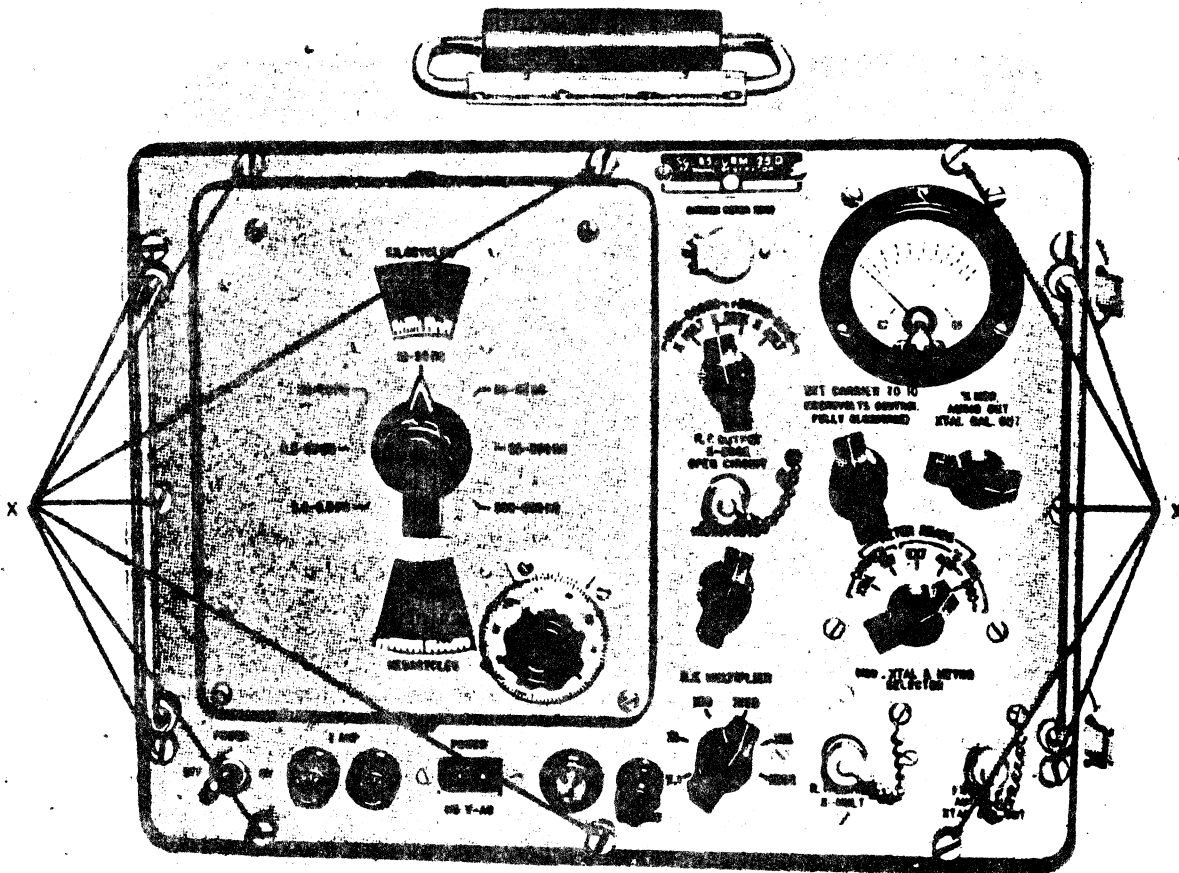

Figure 6-2. Front Panel View for Removal of RF Signal Generator SG-85/URM-25D from Cabinet
- (1) Disconnect the power cable (W101-1).
- (2) Loosen the twelve captive screws (X) located around the outer edge of the panel (figure 6-2).
- (3) Gently pull the generator chassis about eight inches from the cabinet, using the lifting handles provided on the front panel. The generator unit cannot be completely removed since the interconnecting power cable (W102) and output power cable (W103) are still connected to the power supply sub-chassis.
- (4) Remove the output power supply connector (P102) and the AC input connector (P101) from the power supply sub-chassis. The generator sub-assembly can now be removed. The power supply sub-chassis will remain in the cabinet.